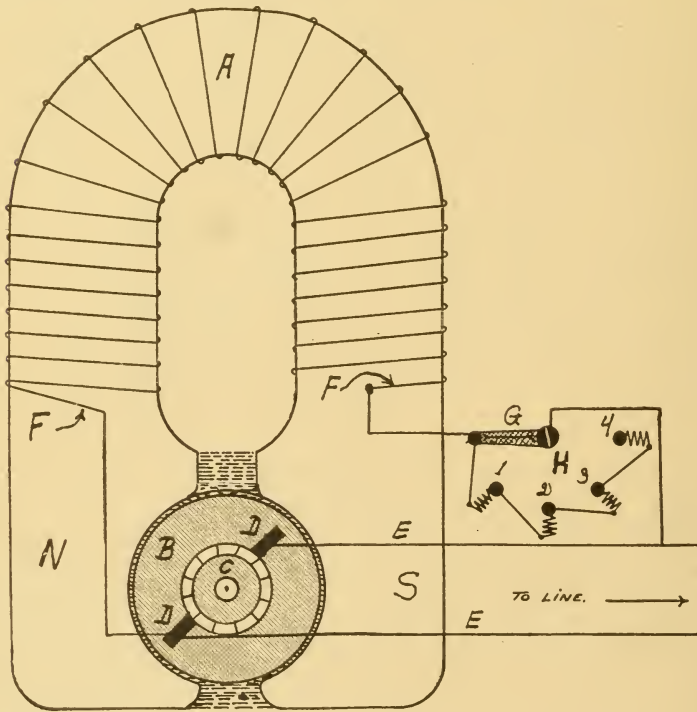

FIGURE 3
(33) Fig. 3 shows various integral parts of what is
(35) Magnetic force like electromotive force represents pressure. (36) When a wire is coiled around a suitable iron core in close proximity thereto and a. c. is sent through the wire the iron will be magnetized; (37) the magnetizing power exerted will be in exact proportion to the current strength (E.M.F.) and the number of turns the wire makes. (38) The density (pressure) of a magnetic field is usually spoken of and considered as the number of lines of magnetic force per square inch. The greater the magnetic intensity of a field the greater the number of lines of force per unit area.
(39) The capacity of such a machine would, within certain limits, depend upon (1) the strength of field magnet NS, since that controls the number of lines of magnetic force the commutator coils will cut during each revolution of the armature. (2) The number of turns of each armature coil and the number of coils mounted on the armature. (3) Number of rotations of the armature per minute. Each of these items, you will observe, has to do with the number of lines of magnetic force that will be "cut" per second. Other things enter, such as, for instance, the kind of armature core, size and winding of magnets, etc., but our purpose here is only to briefly explain the principles upon which the electric generator operates. With infinite variations in method, these are always the same.
(40) In Fig. 3, N and S is a "permanent magnet" by which is meant that the magnet retains some of its magnetic force when the machine is not in operation, and
In Fig. 3 we see field winding FF coiling around a portion of magnet NS. With field rheostat G as shown there is no resistance in series with field winding FF. The engine or other power source starts armature B rotating whereupon, with the line switch open and therefore practically no resistance in the circuit, the armature coils begin cutting such lines of force as the residual magnetism supplies. A very weak current is thus generated, all of which flows around field coil FF.
(42) Now if alternating current is sent around magnet NS through such a coil as is shown (FF), the immediate result will be to strengthen the magnet itself, and thus to increase the number of lines of magnetic force cut by the armature coil each revolution or per second, so that the magnetic strength will be further increased.
(43) This proceeding, if unchecked, will go forward until the magnet has reached the "point of saturation," which means that its strength cannot be further increased.
(44) In practice, however, the process goes forward until the commercial voltage has been built up, whereupon the switch controlling outer circuit EE is closed, and sufficient resistance cut in series with winding FF (by moving the lever just below G, Fig. 3) to supply sufficient magnetic strength to enable the armature to maintain the required line voltage. In practice this latter is, in modern machines, done automatically by the machine itself.
(45) Modern generators for the most part have more than two magnets, but in effect only one N and S pole.
(46) The added magnets enable the machine to produce the required amount of electrical energy at the desired